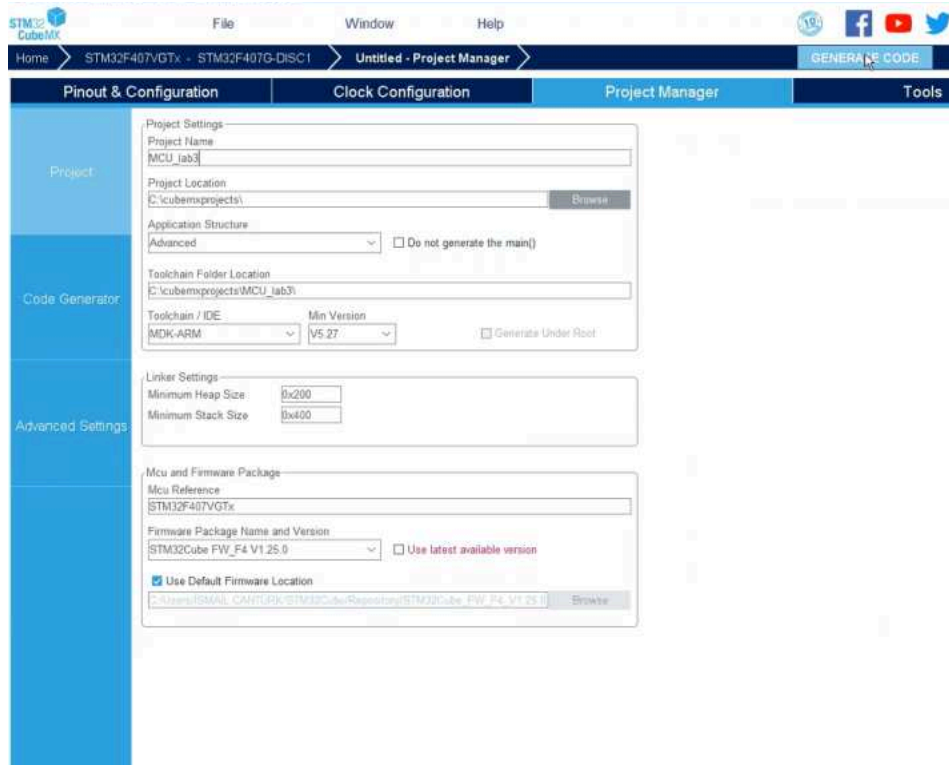
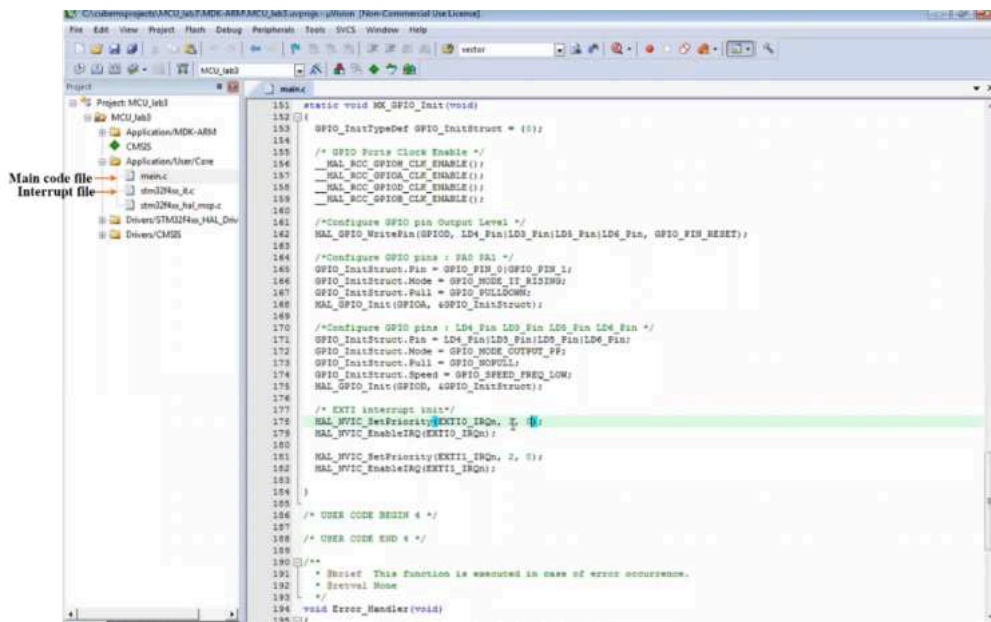

Figure 4
Figure 5
5. Come to the Project Manager and adjust necessary settings as in Figure 4. Then click the Generate Code (Figure 4). Keil μ Vision programme will be opened. You can see the settings which were already done in CubeMx in the main.c file in Keil μ Vision (Figure 5). You can change the adjustments from here without going back to the CubeMx. Build the codes in the main.c file. Double click the interrupt file (stm32f4xx.c). You can see the interrupts functions here (Figure 6). You can write codes in the functions. If you want to understand what the function does, you can right click on the function and select the 'Go to Definition...' shown as in Figure 7.